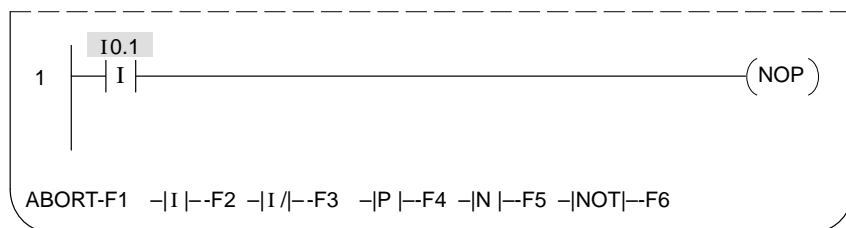

Figure 4-6 Entering Immediate Contacts
2. Press `-|` `SP` `--F5`. Another string of function keys appears in place of the one you started with. These function keys allow you to choose one of several different special contacts, as shown in Figure 4-6.